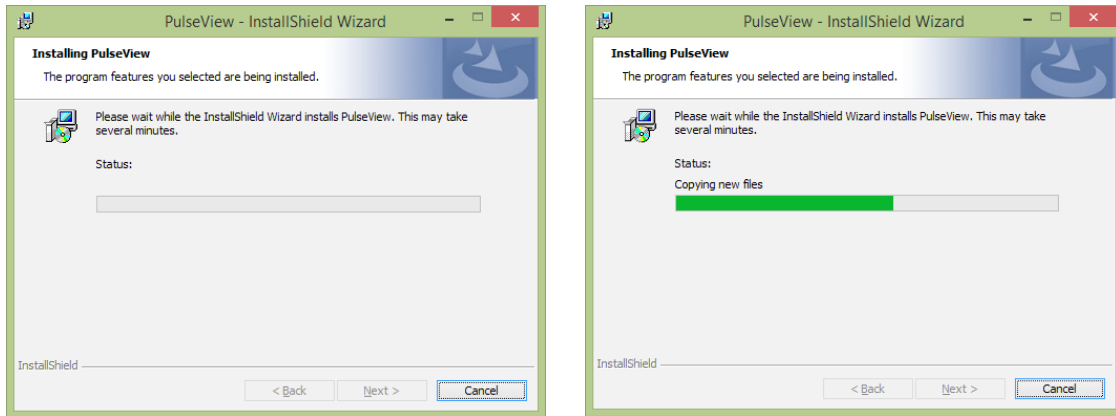

Figure 3.42. PulseView Software Installation in Progress
4. Click **Install** to begin the installation process and follow the instructions on the screen (Figure 3.42).